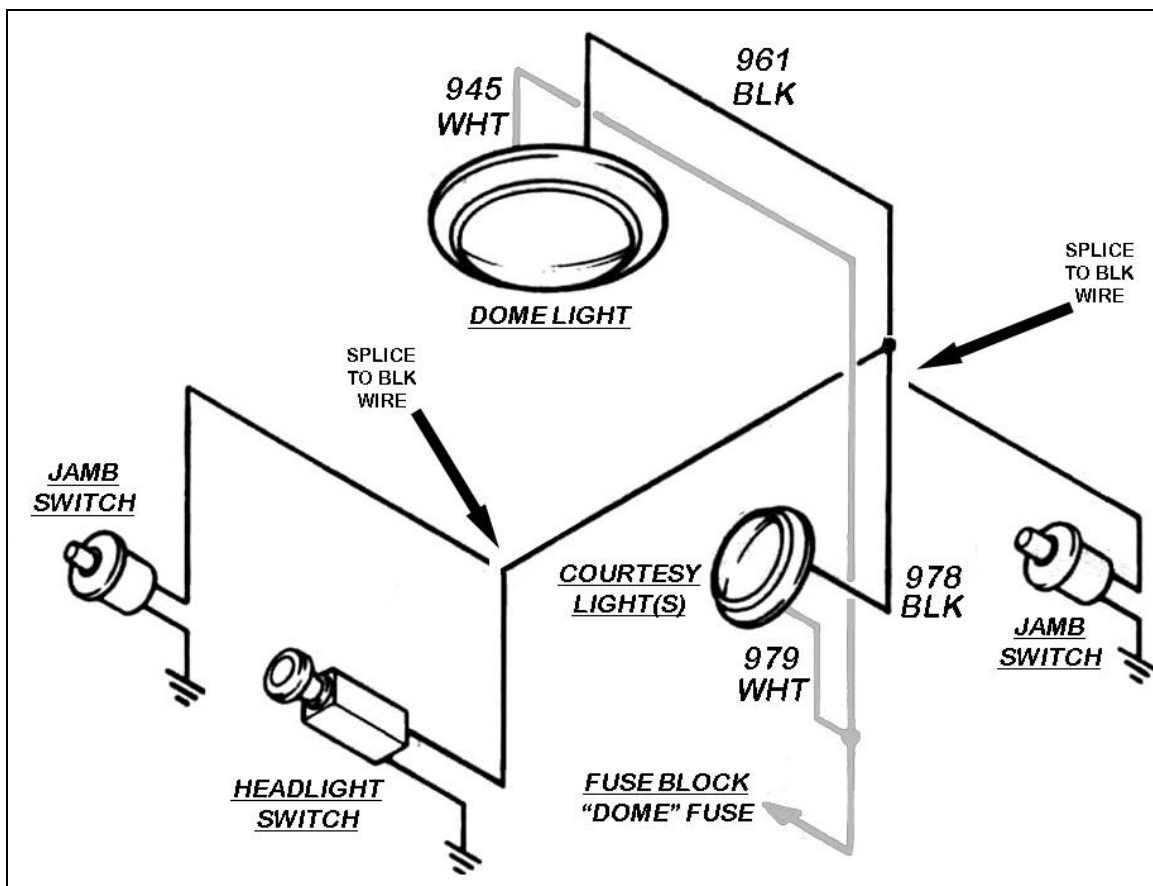

Figure 17-1 Interior Lighting (GM Style Jamb Switch – Painless Part #80170)
17.0 Interior Lighting. See Figure 17-1
- 17.0.1** Interior Lights are switched through the door the dash-mounted headlight switch, which is usually rotated counter-clockwise to turn on. Additionally, jamb switches can be added to turn the lighting on when a door is opened. These switches apply ground to the circuit. **YOU WILL NEED TO SUPPLY THESE GROUND WIRE FROM THE JAMB SWITCHES AND SPLICE THEM TO THE BLACK WIRES OF THE LIGHTING CIRCUIT.** 12V is continually present at the light bulbs. See **Figure 17-1.**